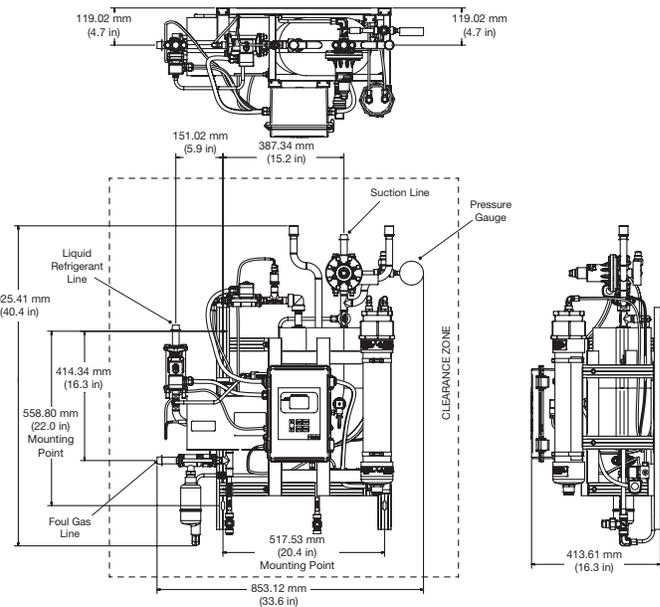

Figure 5: Purger Dimensional Information
1. Mount the Rapid Purger to a wall or structure that can easily handle its weight and installation hardware. The approximate weight of the purger is 34.5 kg (76 lbs). Figure 5 provides dimensional information for the mounting holes, line locations and overall purger height, width and length.
Make sure to leave access for servicing the unit if required. The recommended clearance zone, as shown in Figure 5, is 254 mm (10") for the top and sides. The bottom of the purger must be free of obstructions to allow for water drain and oil removal.